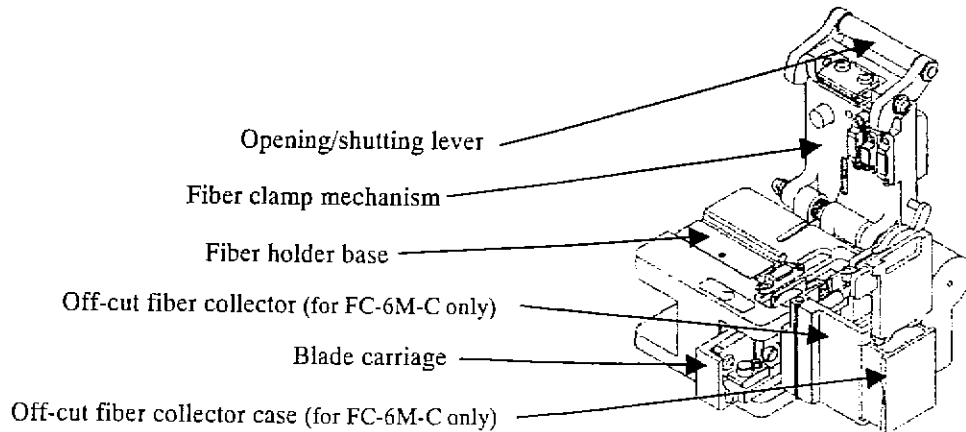

Fig. 1 FC-6M-C appearance
B. Operation (refer to Fig.1)
- (1) Lift-up the opening/shutting lever to open the fiber clamp mechanism.
- (2) Ensure that the blade is in the forward starting position as shown in Fig. 1.
- (3) Set the fiber (whose coating is removed) into the fiber holder.
- (4) Place the fiber holder onto the fiber holder base so that the right side of the holder touches the fiber holder base.
- (5) Ensure the fiber is straight.
- (6) Close the lid of the off-cut fiber collector lightly (for FC-6M-C only).
- (7) Lower and close the fiber clamp mechanism (Displayed "1 CLOSE" on the cleaver).
- (8) Slide the blade carriage to cleave the fiber (Displayed "2" on the cleaver).
- (9) Lift-up the opening/shutting lever to open the fiber clamp mechanism.
- (10) Remove the fiber holder and dispose of the waste carefully.